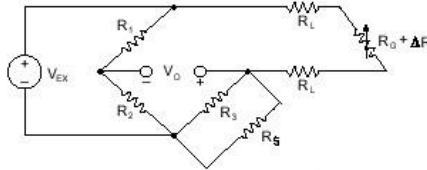

Figure 9c. Shunt Resistor Connected Across R3
**Shunt Calibration** – The normal procedure to verify the output of a strain gage measurement system relative to some predetermined mechanical input or strain is called shunt calibration. Shunt calibration involves simulating the input of strain by changing the resistance of an arm in the bridge by some known amount. This is accomplished by shunting, or connecting, a large resistor of known value ( $R_s$ ) across one arm of the bridge, creating a known DR as seen in Figure 9c. The output of the bridge can then be measured and compared to the expected voltage value. The results are used to correct span errors in the entire measurement path, or to simply verify general operation to gain confidence in the setup.